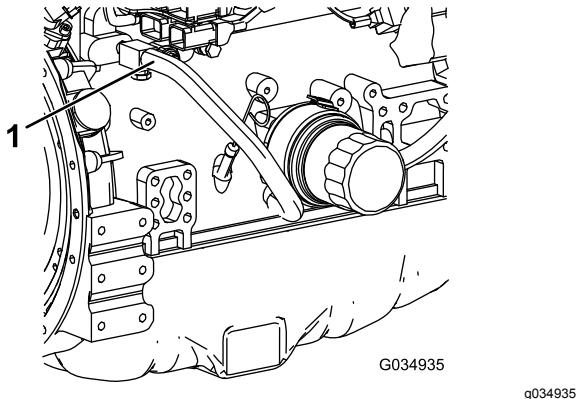

Figure 113
7. Remove the coolant hose from the engine-oil cooler (Figure 113).